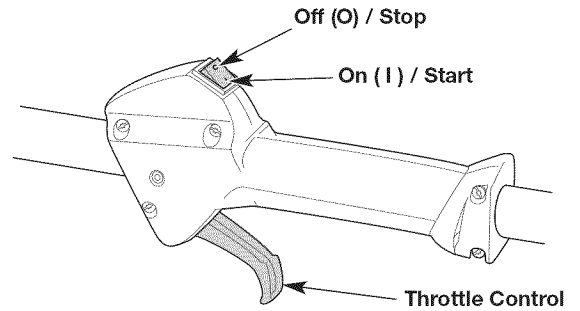
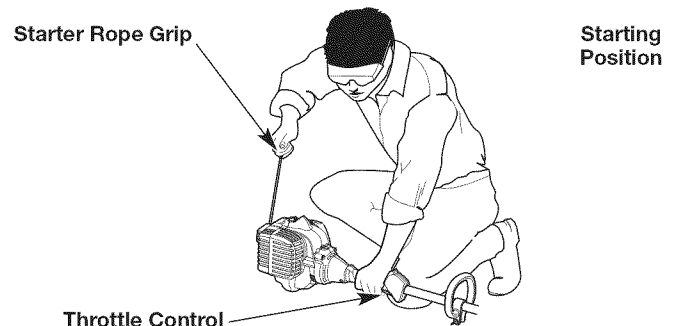

Fig. 9
Fig. 12
**WARNING:** Avoid accidentally starting the unit. To avoid serious injury, the operator and the unit must be in a stable position when pulling the starter rope (Fig. 12).
**NOTE:** There is no need to turn the unit on. The On/Off switch is in the ON (1) position at all times (Fig. 9).
5. Crouch in the starting position (Fig. 12).
6. Squeeze the throttle control (Fig. 9) and pull the starter rope with a controlled and steady motion **5 times** (Fig. 12).
2. Press and hold the On/Off switch in the OFF (O) position until the engine comes to a complete stop (Fig. 9).
**NOTE:** There is no need to turn the unit on. The On/Off switch is in the ON (I) position at all times (Fig. 9).
7. Squeeze and hold the throttle control (Fig. 9). Run the Speed Start™ accessory for 2 seconds.